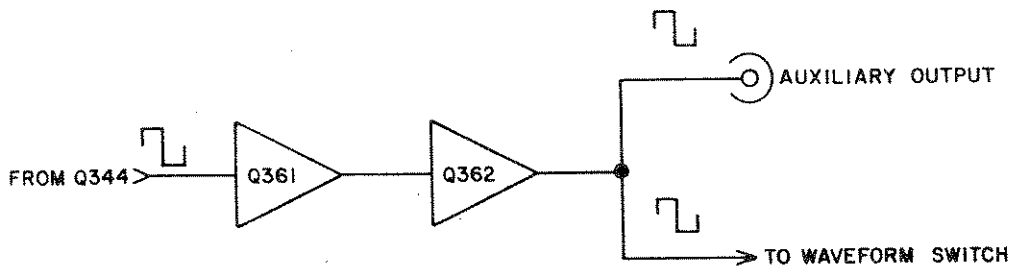

Figure 7. Square Wave Amplifier
4.5 SQUARE WAVE AMPLIFIER (See Figure 7)